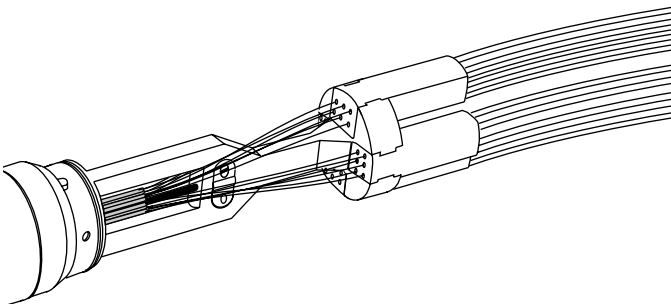

Figure 17
- Repeat steps a-d until all the fibers have been installed (Figure 17).